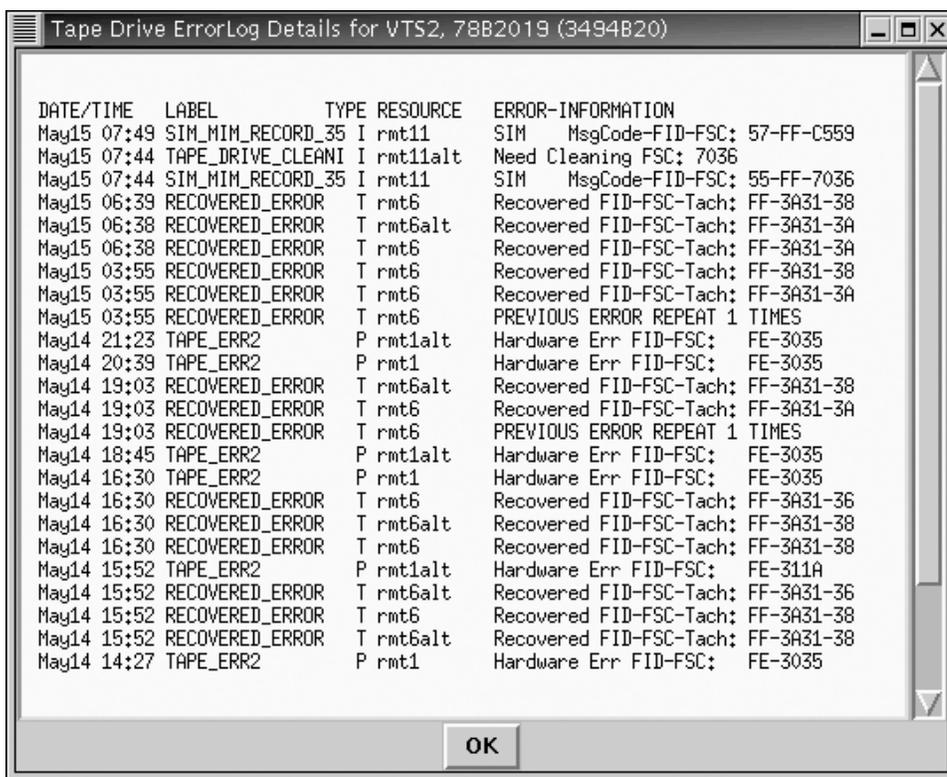

Figure 163. Tape Drive Service Information – Tape Drive Error Log Details Screen
- Control Unit Error Log showing tape drive entries (see Figure 163)